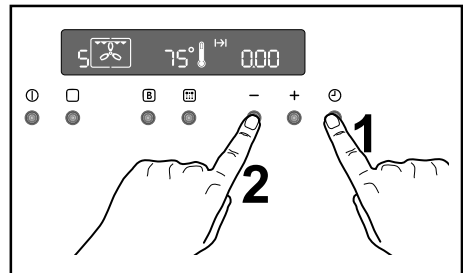

Fig. 10
- press button "-" to decrease the time until "0.00" is displayed (Fig. 10).